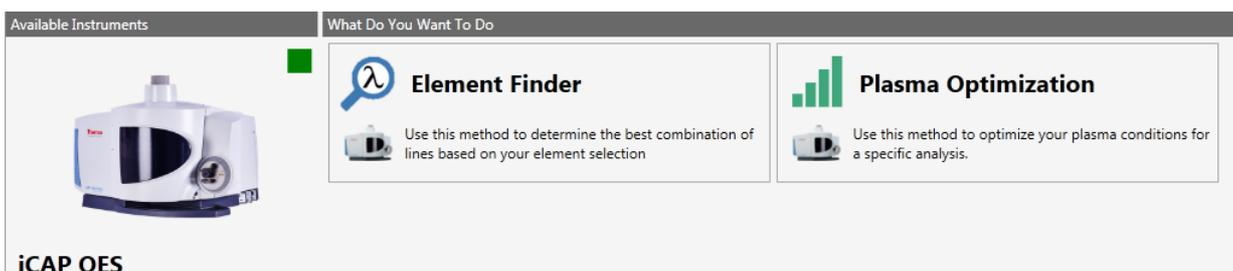

Figure 7-2. Initial view for creating a new method
1. From the initial view of your method (see Figure 7-2), click **Plasma Optimization** to run the wizard.